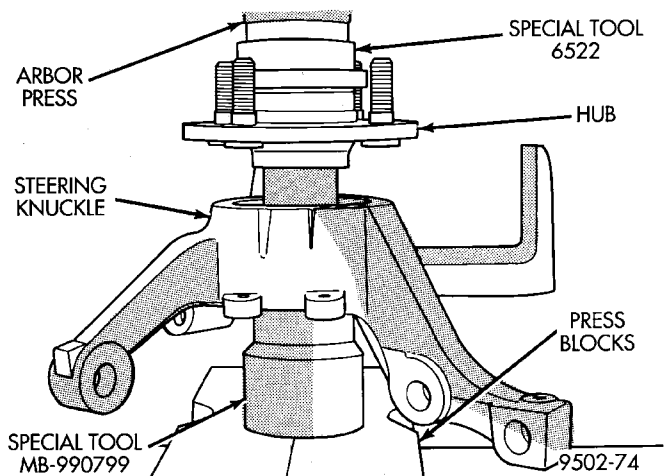

Fig. 51 Pressing Hub Into Hub Bearing
(6) Place steering knuckle with hub bearing installed in an arbor press with Receiver, Special Tool MB-990799 supporting inner race of the hub bearing (Fig. 51). Place hub in hub bearing making sure it is square with bearing. Place Driver, Special Tool 6522 on front face of hub (Fig. 51). Press the hub into the hub bearing until hub is fully bottomed in hub bearing.
(7) Install the steering knuckle, hub and the hub bearing as an assembly on the vehicle. Refer to Steering Knuckle in the Removal And Installation